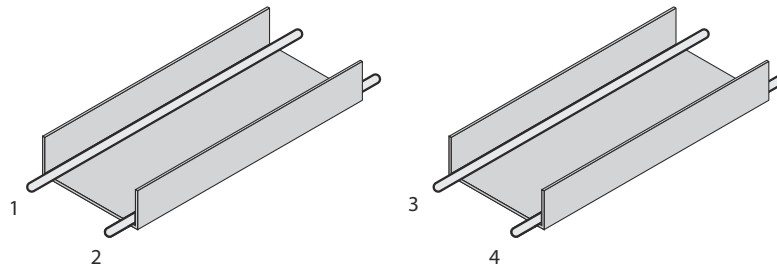
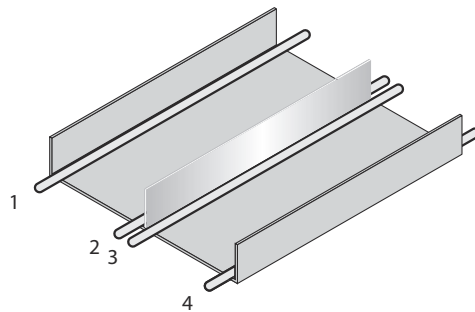

Figure 7: Ideal laying - Place cables in different cable channels
Figure 8: Alternative laying - Separate cables with metallic separators
- ▶ Cables in groups 1, 2 and 3, 4 must be routed in different cable channels or metallic separators must be used, see figure 7 and see figure 8. This applies particularly where cables of devices with a high level of radiated emission, such as frequency converters, are laid parallel to sensor cables.